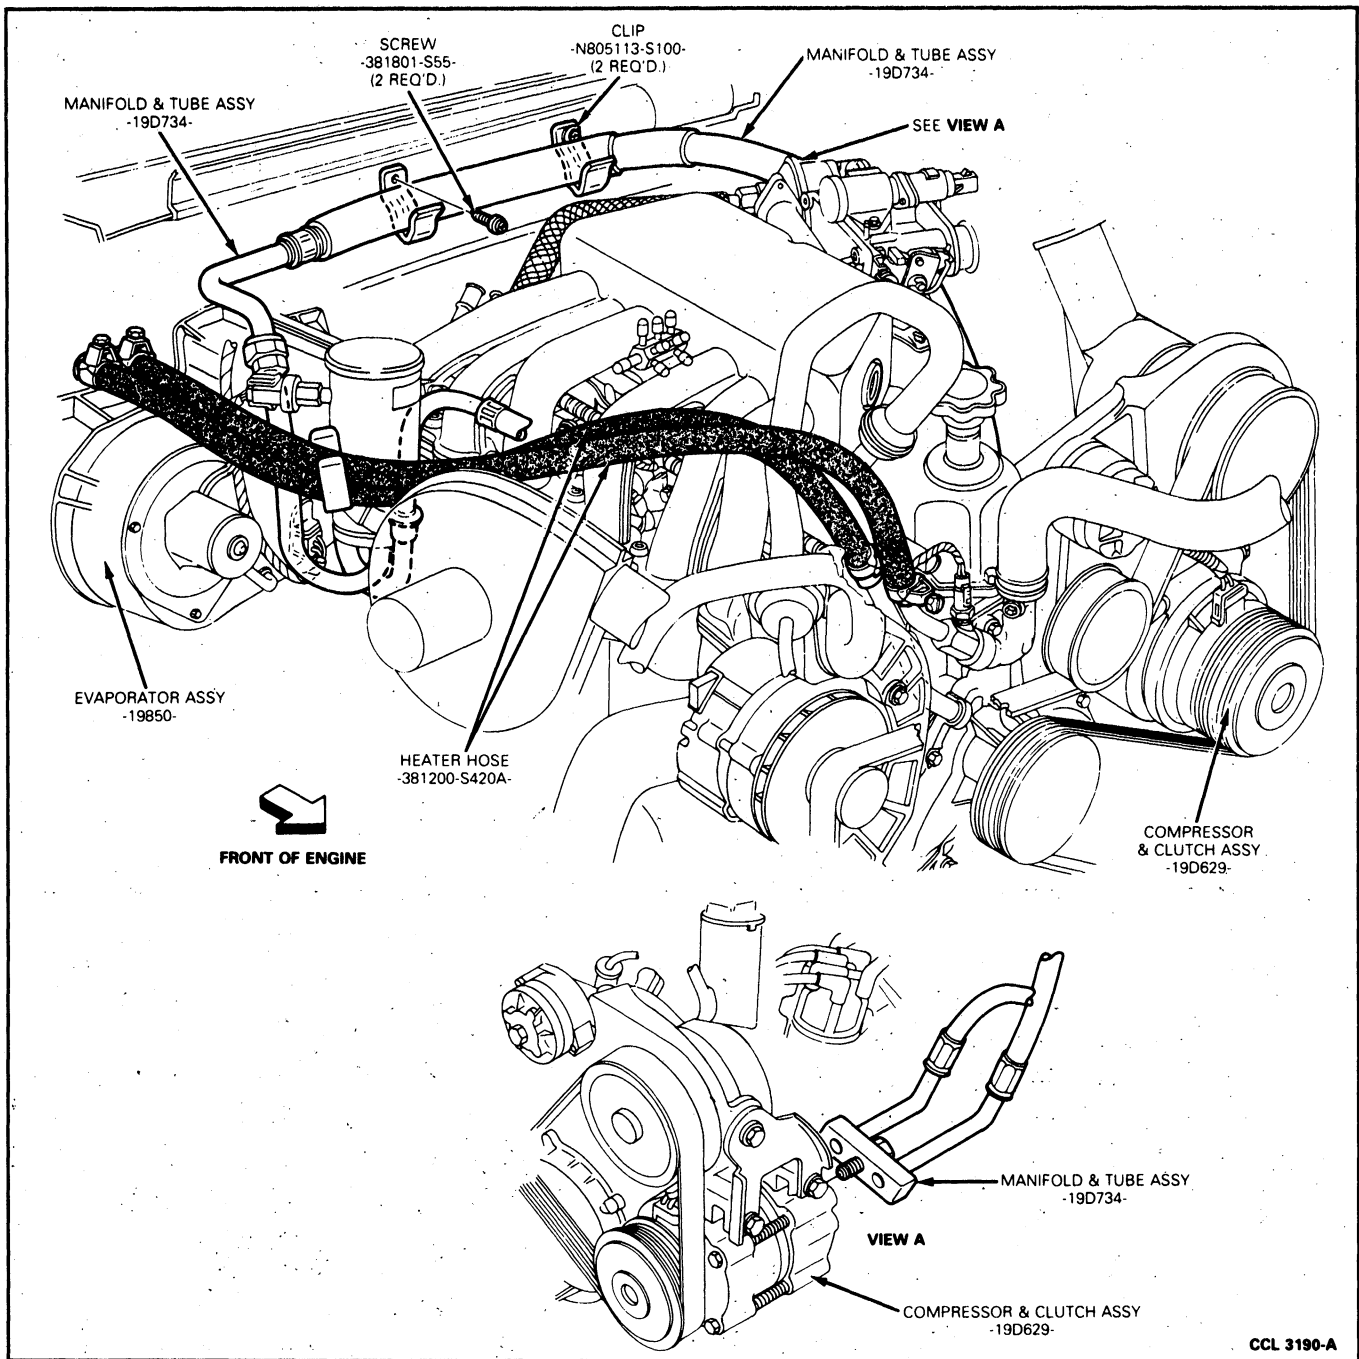

FIG. 21 Heater Hose Installation—4.5L (300 CID) EFI Engine
Figures 21 through 24 illustrate the heater hose installations on the 4.9L (300 CID), 5.0L (302 CID), 5.8L (351 CID), 7.3L (447 CID), and 7.5L (460 CID) engines. The following procedure applies to each of the installations.
4. Route the hoses as shown in the applicable illustration (Figs. 21 through 25).